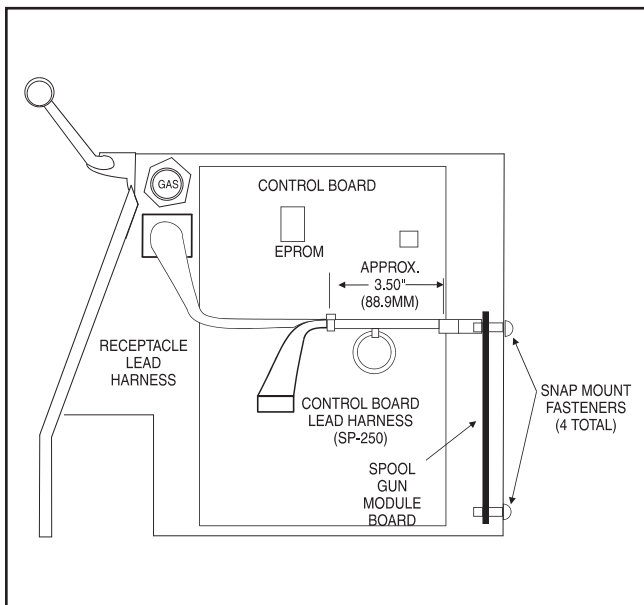

FIGURE C.1 - Spool Gun Module Board Installation.
4. Locate the four snap-mount fasteners mounted to the side panel of the P.C. board compartment. See Figure C.1.
10. Locate the panel receptacle lead harness included in the kit. See Figure C.1.
11. Insert the panel receptacle into the hole on the control board side of the panel, making sure the panel receptacle mounting plate is positioned so the grounding screw is in the lower left corner of the plate. See Figure C.1.
14. Disconnect the 4-pin gas solenoid plug from the receptacle (Molex plug J8) on the upper right corner of the Control Board as shown **Figure C.1**. Reconnect this plug to the 4-pin receptacle (Molex plug J14) on the top of the Spool Gun Module Board.
16. Using the cable tie included in the kit, tie the two harnesses together approximately 3.50 inches (88.9 mm) from the end of the lead plugs as shown in **Figure C.1**.